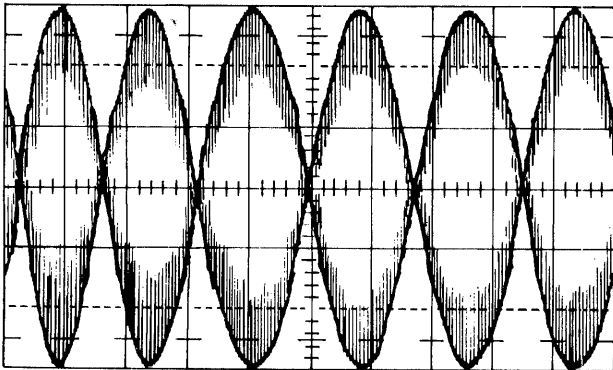

Figure 5-35. Index Rack Amplitude
- i. Manually move index rack back and forth past transducer to check for equal cylinder-to-cylinder amplitude relationship across entire length of rack (see Figure 5-35).